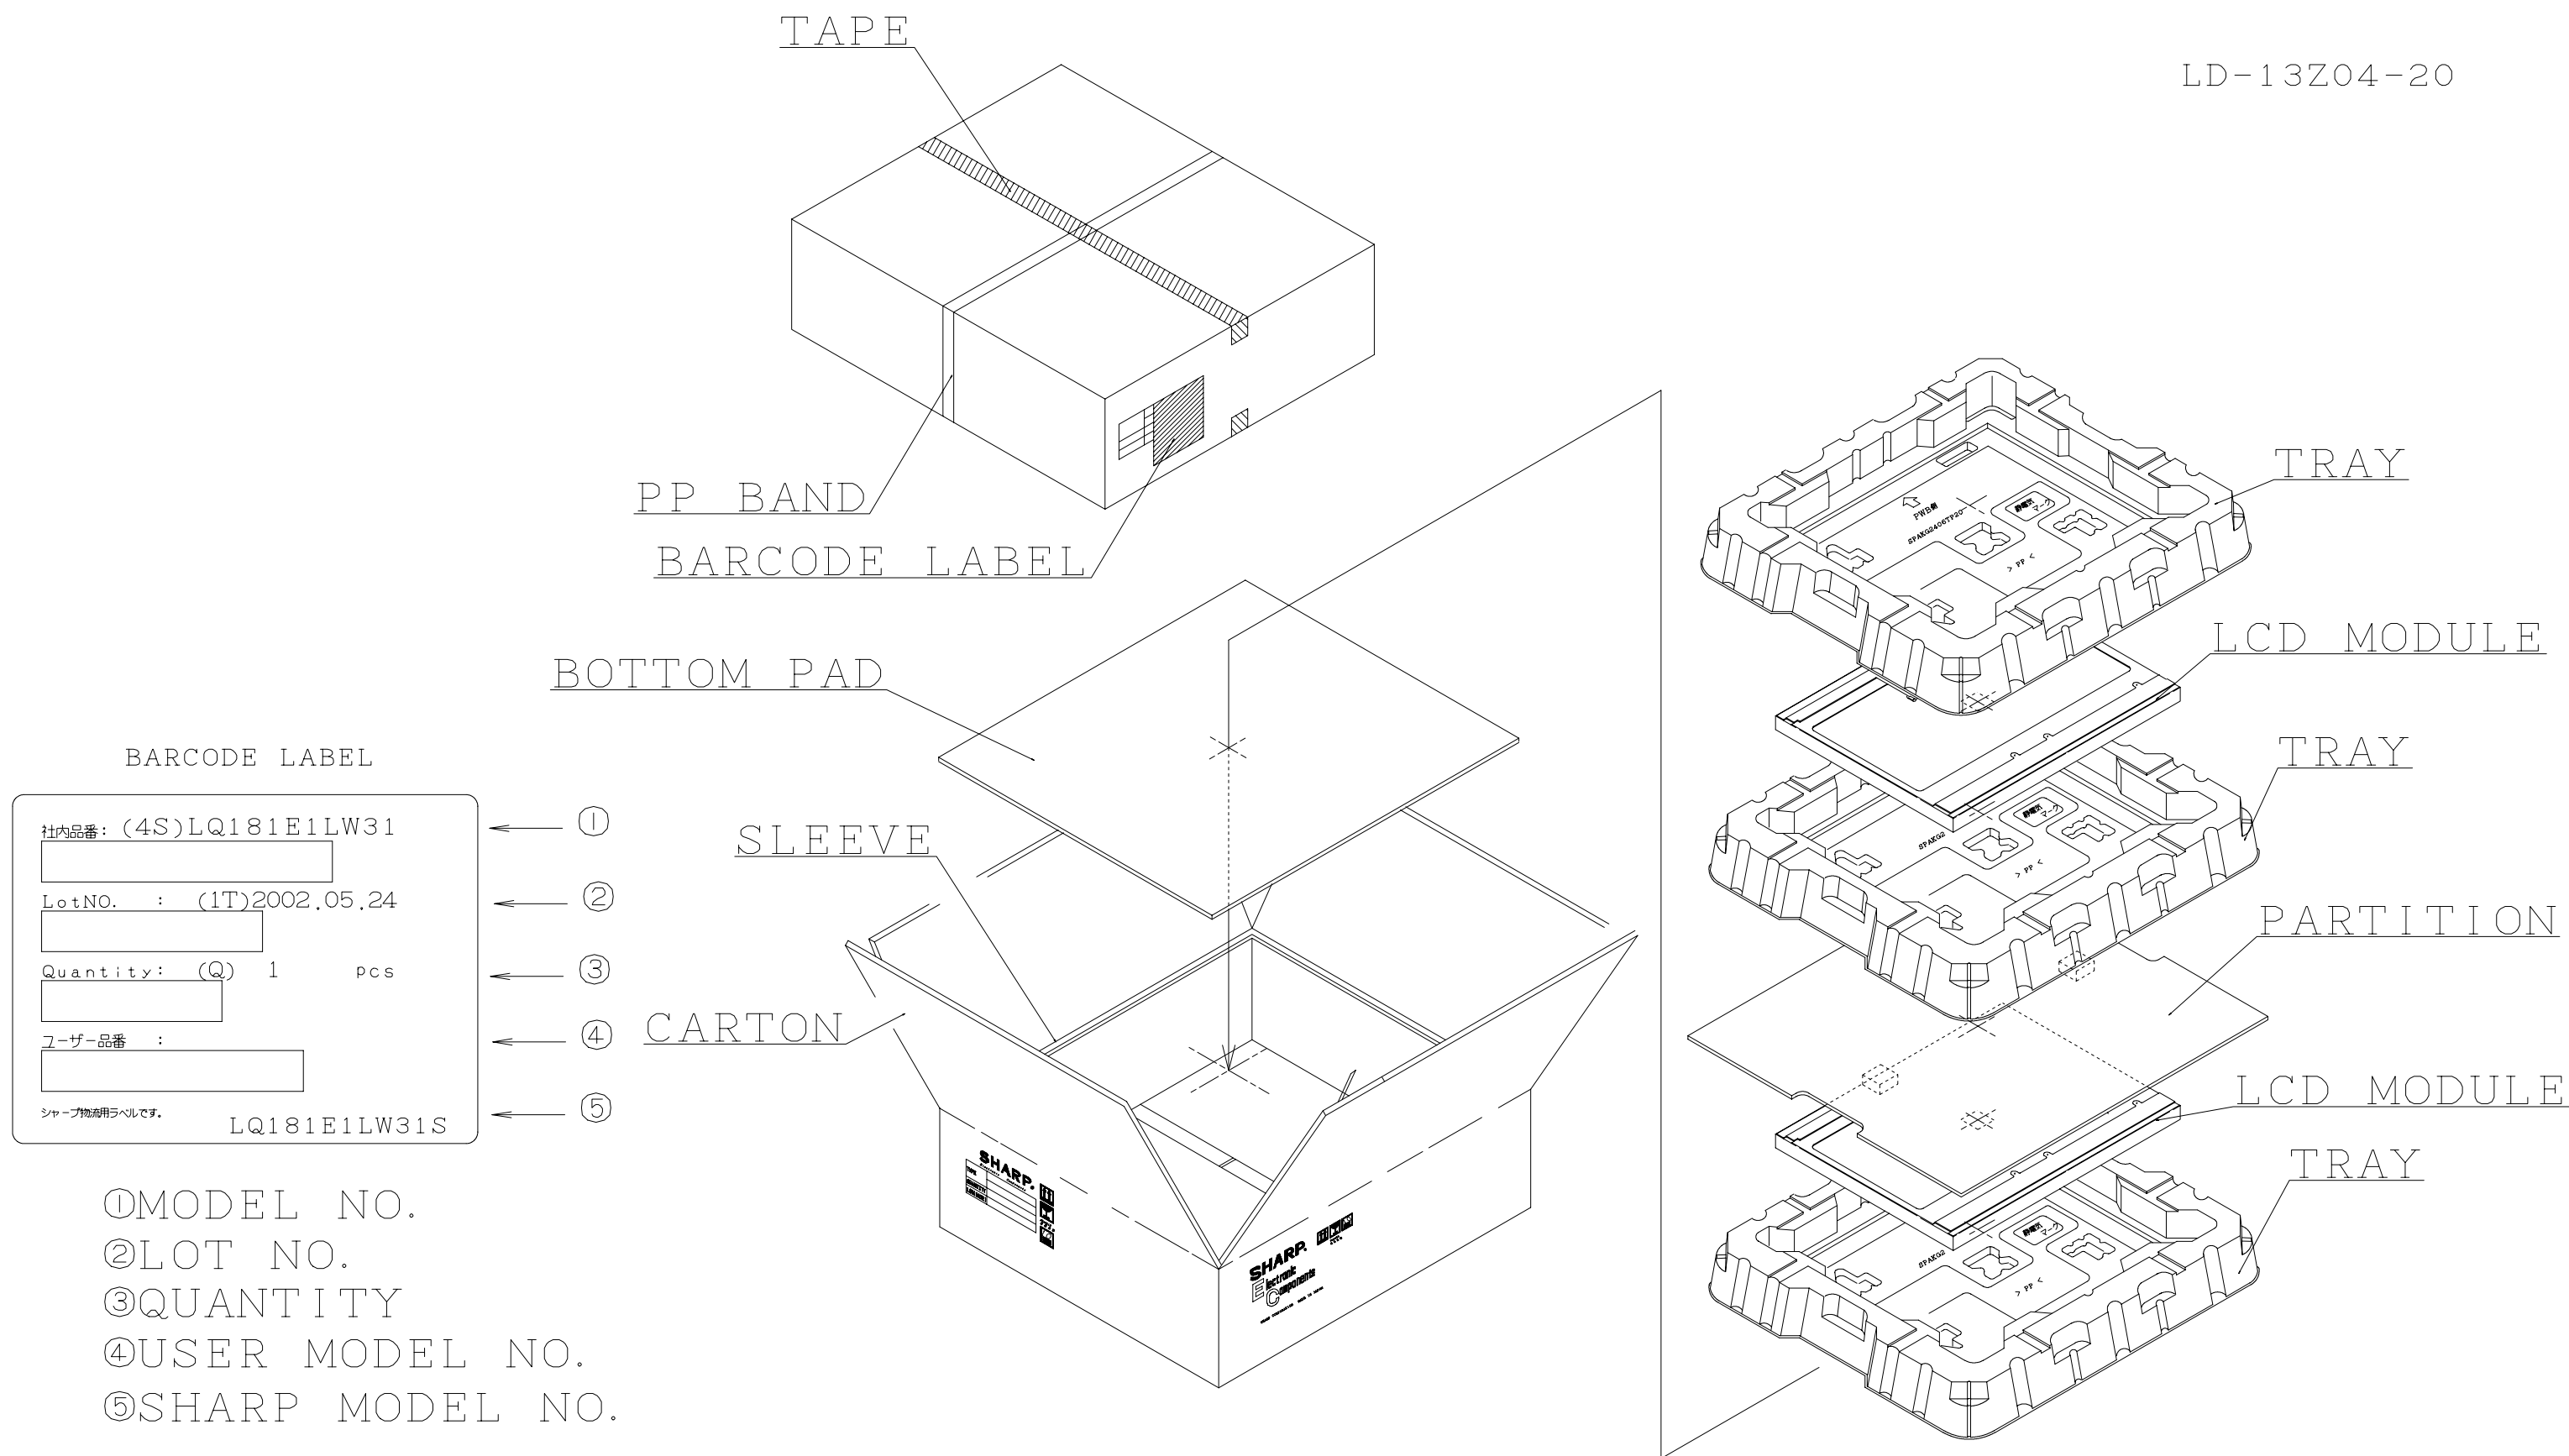

Fig5. Packing Form
- e) Packing form is shown in Fig.5